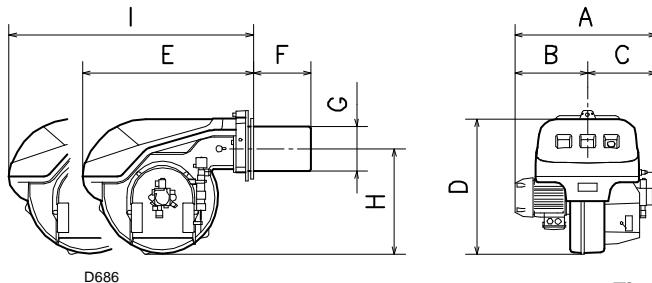

Fig. 1
3.2.3 Max. dimensions (Fig. 1) - approximate measurements
The maximum dimensions of the burner are given in (Fig. 1). Bear in mind that inspection of the combustion head requires the burner to be opened and the rear part drawn back on the guides. The dimensions of the open burner are indicated by position I.